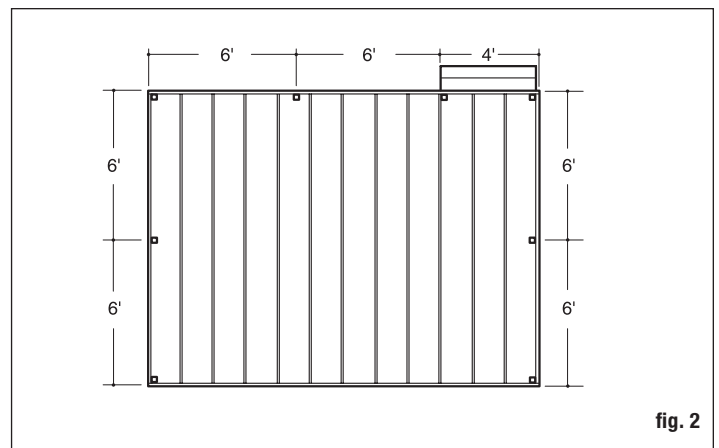

fig. 2
Step 1 Determine the number of railing posts needed for your deck. Post spacing is either 6' on-center or 8' on-center depending on the rail length chosen. Example: A 12' x 16' deck attached to a building with a 4' access opening on one side will require a total of eight posts (fig. 2).